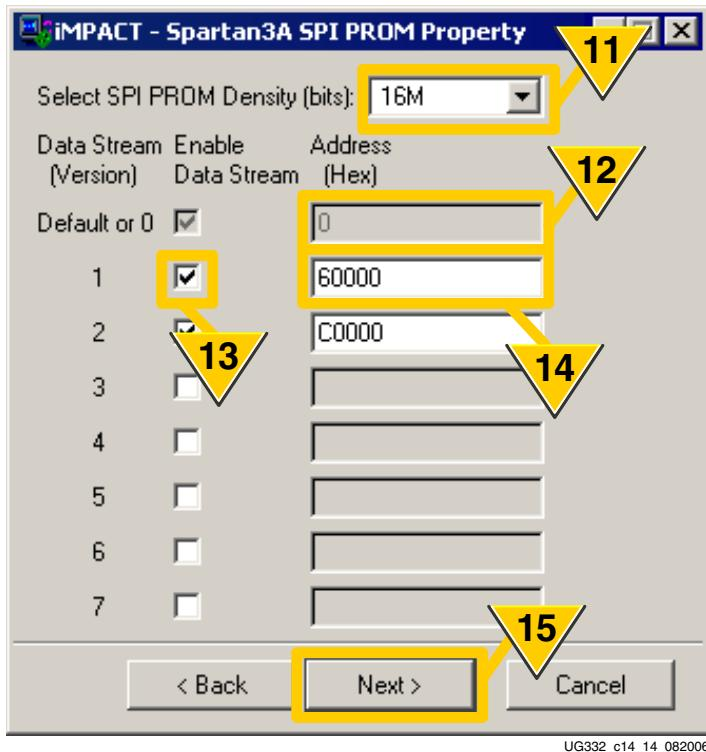

Figure 14-15: Enter a PROM Density and Specify MultiBoot Image Start Locations
11. As shown in Figure 14-15, Select **SPI PROM Density**, which is always specified in bits. This example uses a 16 Mbit PROM.